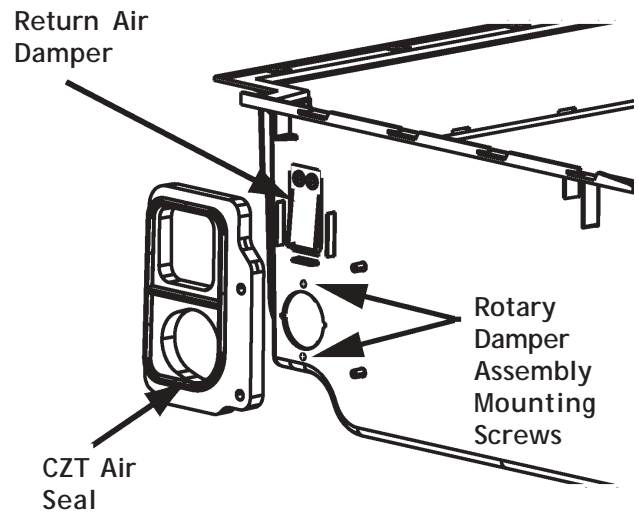

Figure 2-10
2. Remove the CZT air seal. (See Figure 2-10)